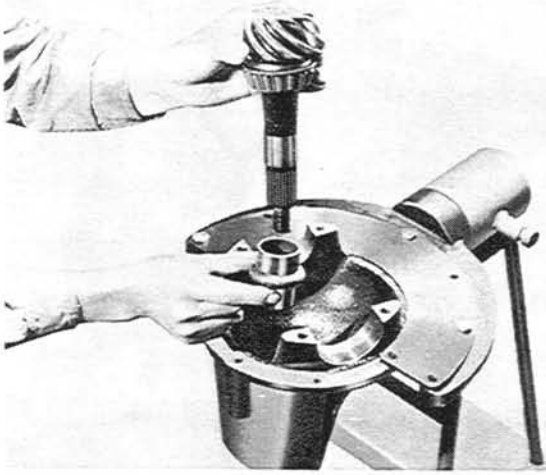

Fig. 9-20 Installing of collapsible spacer
1. Position the pinion assembly in the carrier and install the collapsible spacer as shown in Fig. 9-20.